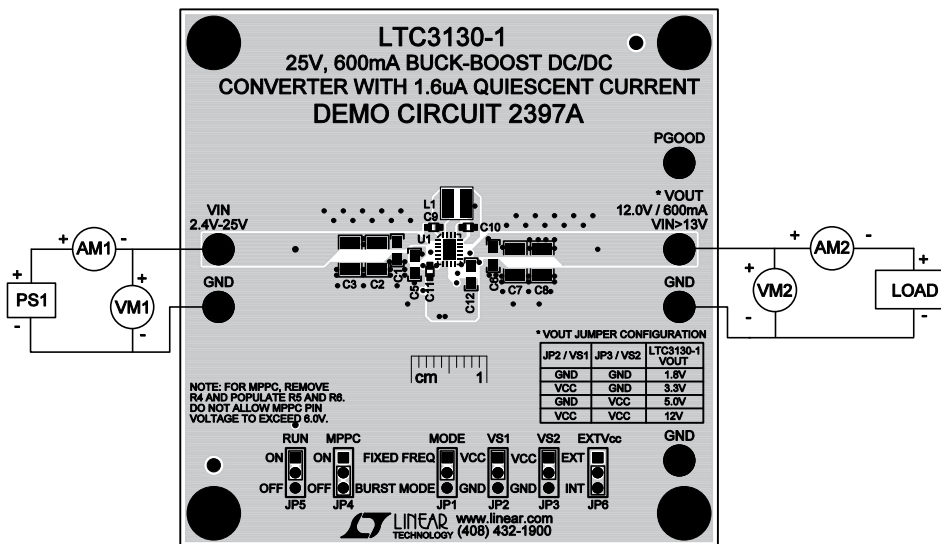

Figure 4. Proper Measurement Equipment Setup
Using short twisted pair leads for any power connections and with all loads and power supplies off, refer to Figure 4 for the proper measurement and equipment setup. The power supply (PS1) should not be connected to the circuit until told to do so in the procedure below.
2. With power OFF connect the power supply (PS1) as shown in Figure 4. If accurate current measurements are desired (for efficiency calculation for example) then connect ammeters in series with supplies as shown. The ammeters are not required however.
3. Connect a 50mA load ( $240\Omega$ ) to  $V_{OUT}$  as shown in Figure 4 .